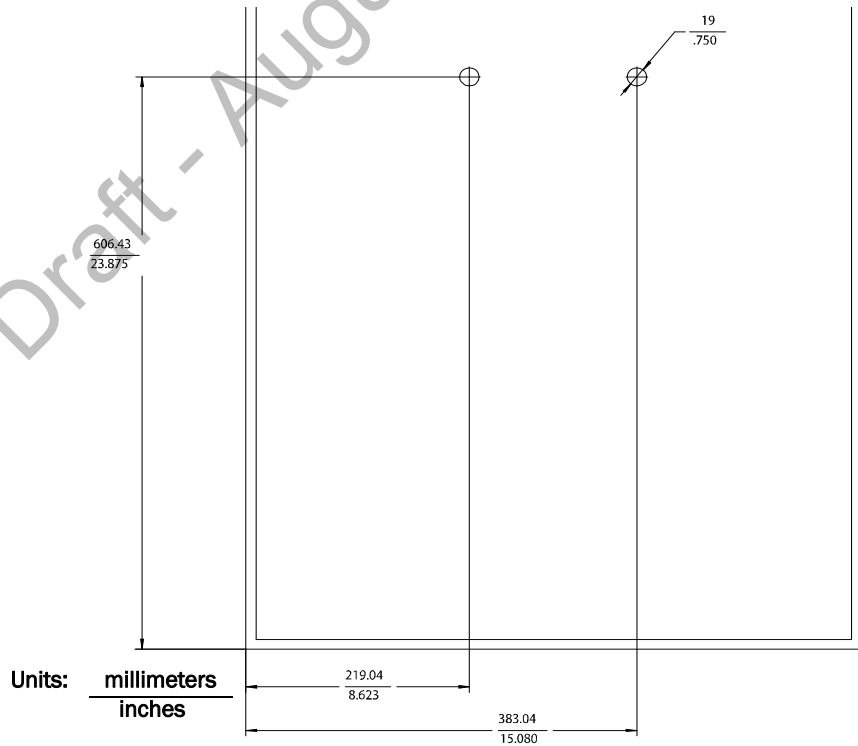
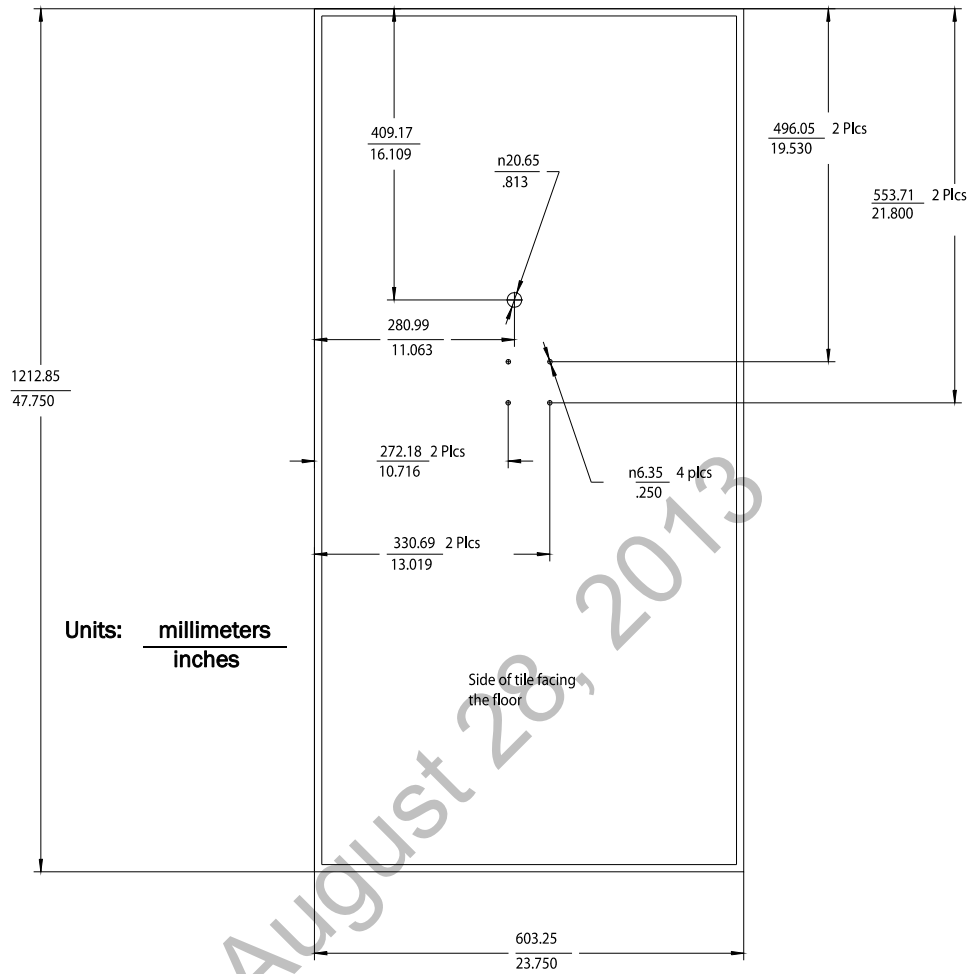

Figure 2-17: Alternative Above the Ceiling Remote Antenna Mounting Position
Figure 2-18: RA Below Ceiling Tile Hole Locations and Dimensions
The RA chassis can be rotated 90 degrees to the mounting rails. Choose the best placement of the RA to facilitate where the antennas will go through the ceiling tile. Note that there are two holes in the RA chassis to allow for tethering to other permanent structures where local building codes require this type of installation. Refer to Figure 2-16 or Figure 2-17 for the dimensions to locate the antenna holes in the ceiling tile.
6. Secure the mounting rails to the RA. Insert the four (4) M3 X 0.5 (8 mm LG) screws into the RA mounting rail holes, and into the mating holes in the back of the RA chassis as shown in Figure 2-17 or Figure 2-18. Torque-tighten each screw to 8-inch lbs.
Also, the RA chassis can be rotated 90 degrees. Choose the best placement of the RA to facilitate where the antennas will go through the ceiling tile. Refer to Figure 2-16 or Figure 2-17 for the dimensions to locate the antenna holes in the ceiling tile.
3. Refer to Figure 2-18 for all dimensions and hole locations. Place the mounting rails across the tile (underside of tile). For ceiling tiles that are smaller than standard 2' x 4' size ceiling tile, the mounting rails can be cut down in length at the u-shaped cutouts.